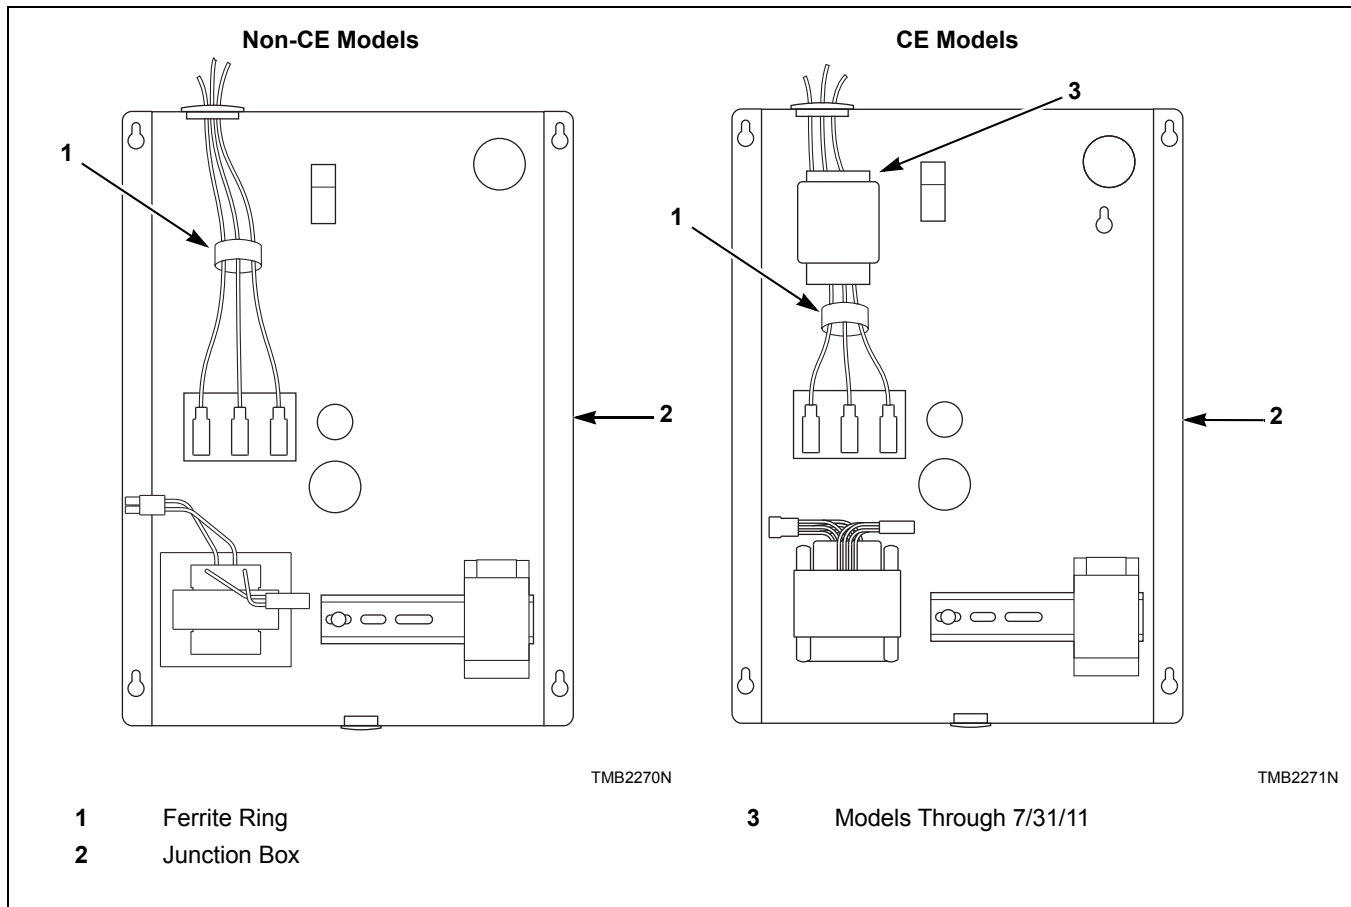

Figure 18
- Snap the ferrite ring closed over all the service leads inside of the contactor box as shown. It is important that the ferrite ring be installed inside the contactor box. Refer to *Figure 18*. Do not install the ferrite outside of the box or other area. Make sure that service leads are in the center of the ferrite before closing the ring so as not to pinch or damage leads.